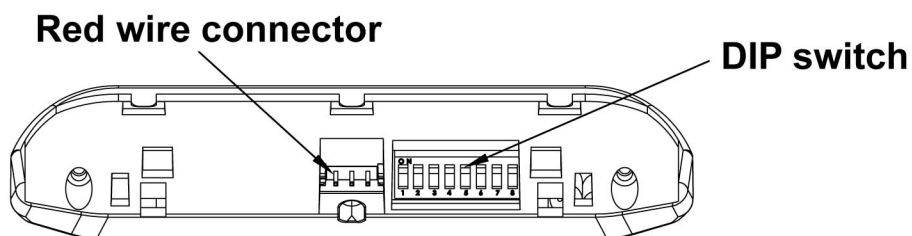

Figure. 4.0. Rear view
6. When connecting the display cable with the display, be careful to make sure that the red wire is on the left, looking from the side (see fig. 4.0).v